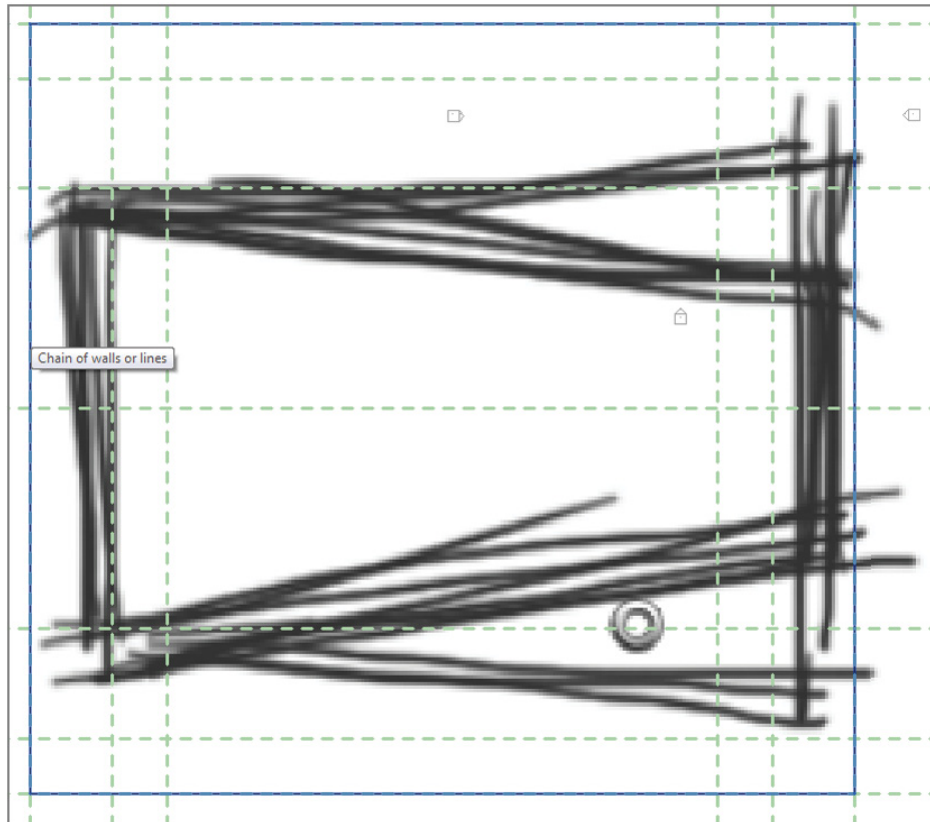

FIGURE 7.21 Creating the third sketch and mass form
1. Return to Level 1, and create a rectangular sketch that connects the outermost reference planes, as shown in Figure 7.21. Then select the lines, and click Create Form.